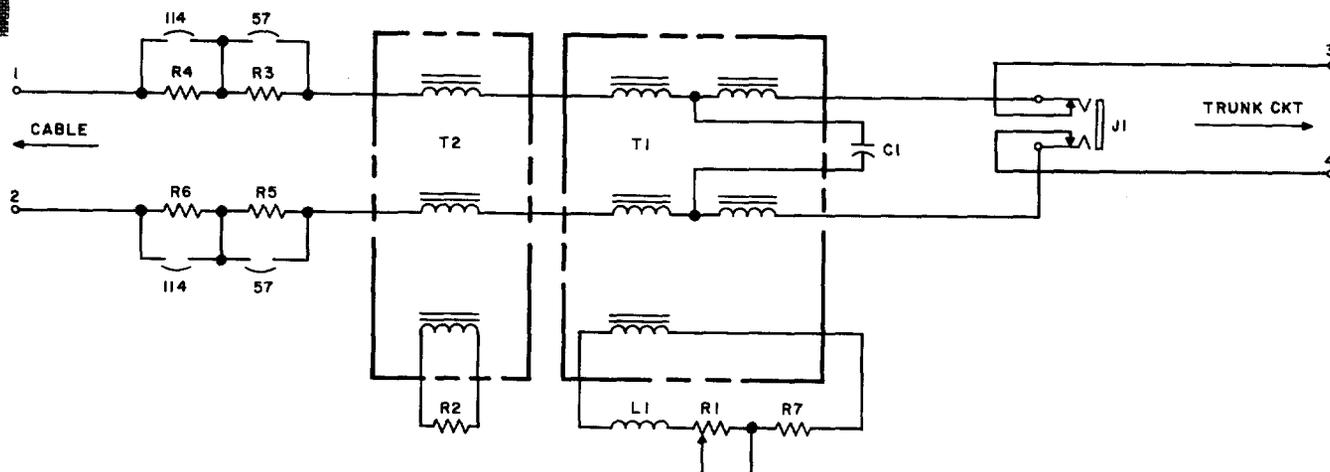

Fig. 2 — 837C Network — Schematic Diagram
3.01 The circuit arrangement of the 837C network is shown in Fig. 2. Terminals 1 and 2 connect to the cable, and terminals 3 and 4 con-